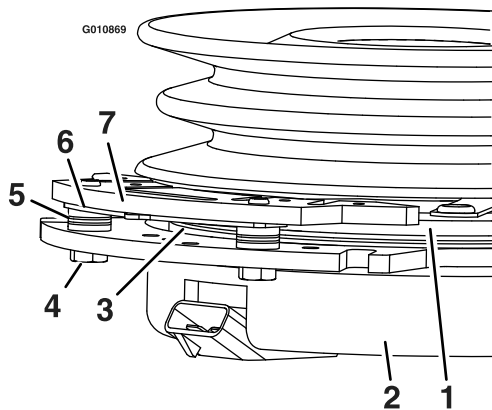

**Figure 81**
3. Remove the dust cap from caster and tighten the locknut (Figure 81).
4. Tighten the locknut until the spring washers are flat, and then back off a 1/4 turn to properly set the preload on the bearings (Figure 81).
**Important:** Make sure that the spring washers are installed correctly as shown in Figure 81.
5. Install the dust cap (Figure 81).